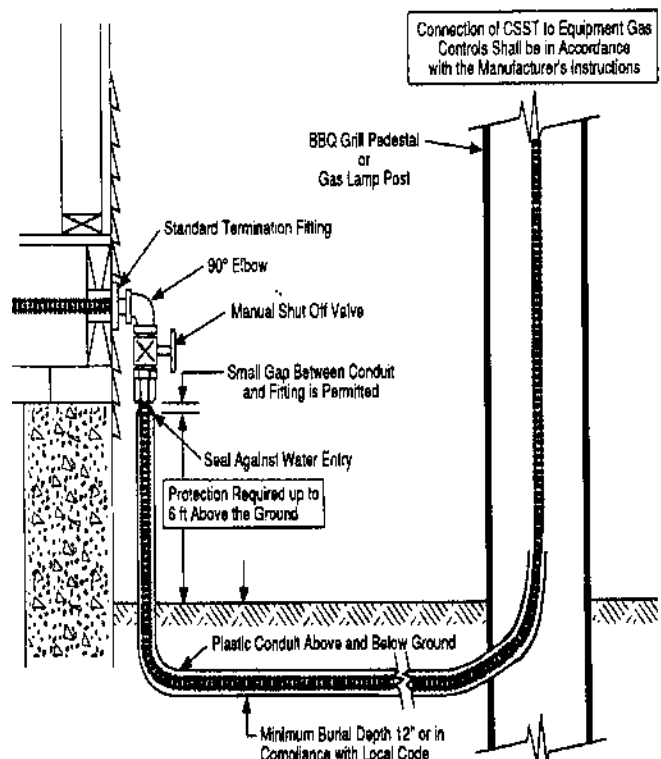

Figure: 4-21
4. Yard mounted lights shall be connected to the TracPipe® system as shown in Figure: 4-21. All piping installed below grade shall be protected by non-metallic, water-tight conduit or **TracPipe® PS-II** for underground use. Exposed ends of the conduit shall be sealed against water entry.